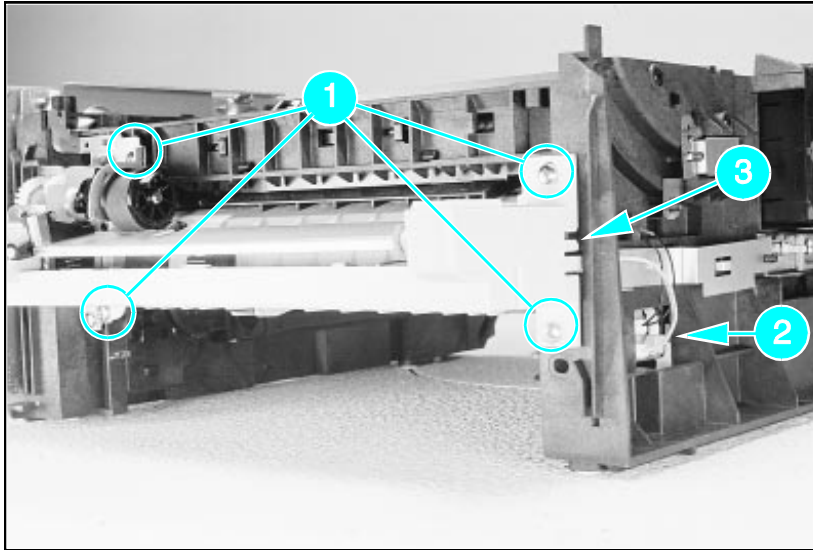

Figure 19 Tray 1 Pickup Assembly Locations.
2. Unplug the two cables (Callout 2 in Figure 19) by grasping the cables where they attach to the plug and pulling straight back.
4. Remove the 5 screws (callout 1 in Figure 19) from the front of the pickup assembly. (Two screws are adjacent in the lower left corner.)
5. Press the two release tabs on either side of the pickup assembly (callout **3** in Figure 19) and pull the assembly away from the printer. (The left side release tab is partially hidden from view. Pressing in on both sides will release the tabs.)